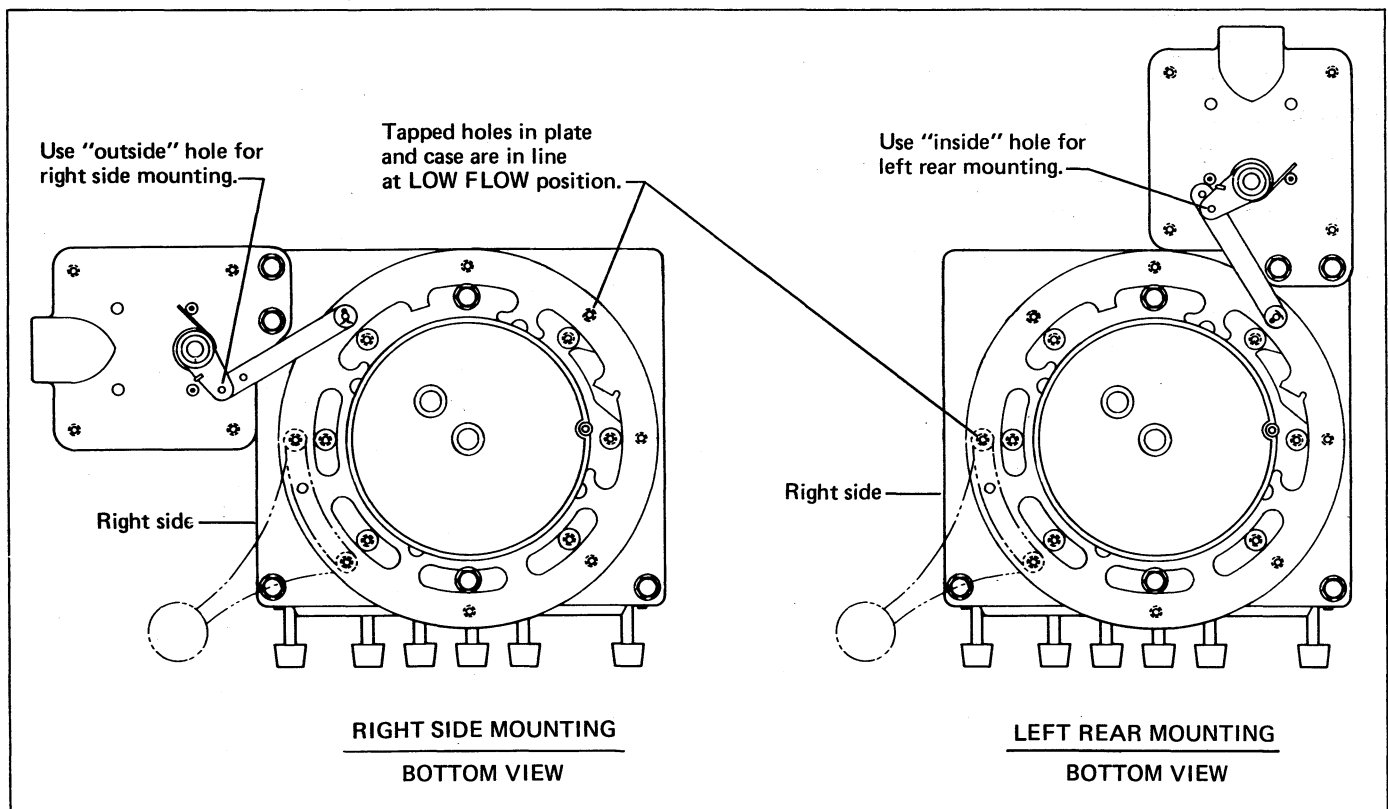

Figure 1. Typical Knockoff Switch Mounting Positions
If moisture enters the inside of the electrical knockoff switch housing (Figure 1) during installation or repair, freezing temperatures could later restrict switch contact operation and result in a runaway delivery of product. To prevent this potentially dangerous condition, protect the switches from rain and snow when the cover is removed. Ensure that switches are dry, then install the cover and tighten mounting screws to keep moisture out.
1. Determine best location for the switch: right side or left rear, Figure 1. Remove the thru-bolt from the appropriate corner of the preset.
3. Rotate the knockoff plate to the LOW FLOW position. Install the link stud in the ring at the proper location, Figure 1.